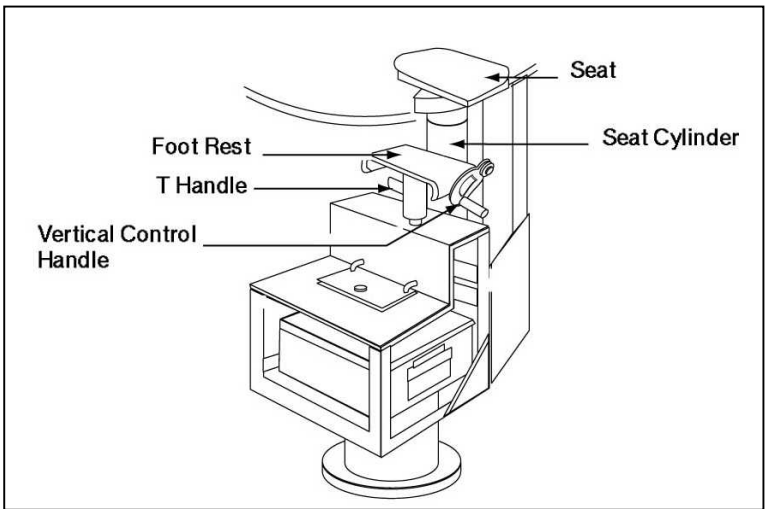

Figure 4-1-6: Gunner's Seat Assembly
24. **Gunner's Seat Assembly.** The gunner's seat assembly (see Figure 4-1-6) is bolted to and rotates with the turret casing. It can be adjustable for height and is fitted with a seat belt and an adjustable footrest. The base provides mounting space for the missile guidance set. To adjust the gunner's seat assembly for height proceed as follows: